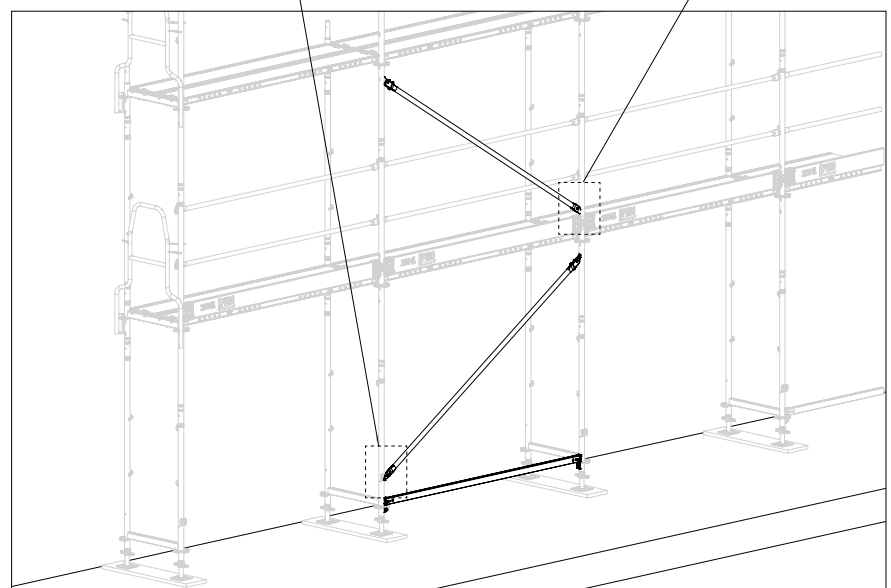

Fig. A5.02
- In the Base Frame EVB (15) see Fig. A5.02+ A5.02a
- In the Easy Frame EVF (16) see Fig. A5.02+ A5.02b